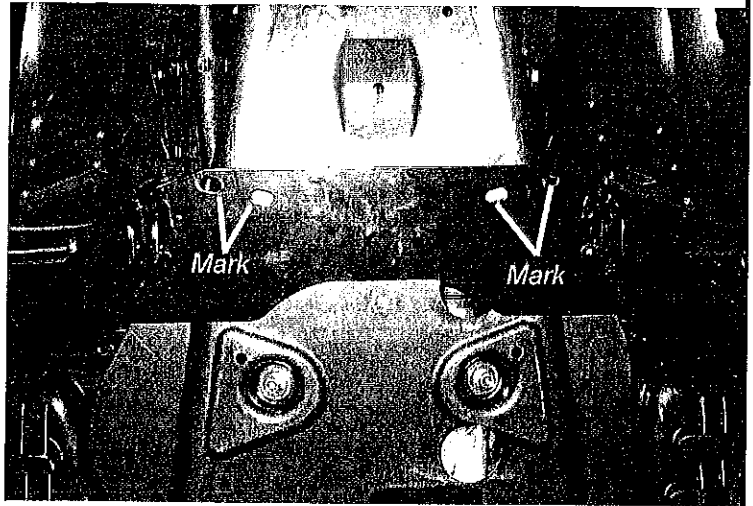

Figure 4 - Mark Plow Mount Slots
- Center the plow mount on the vehicle. Mark the plow mount outline and slots onto the plastic skid plate with a center punch or similar pointed object, figure 4.